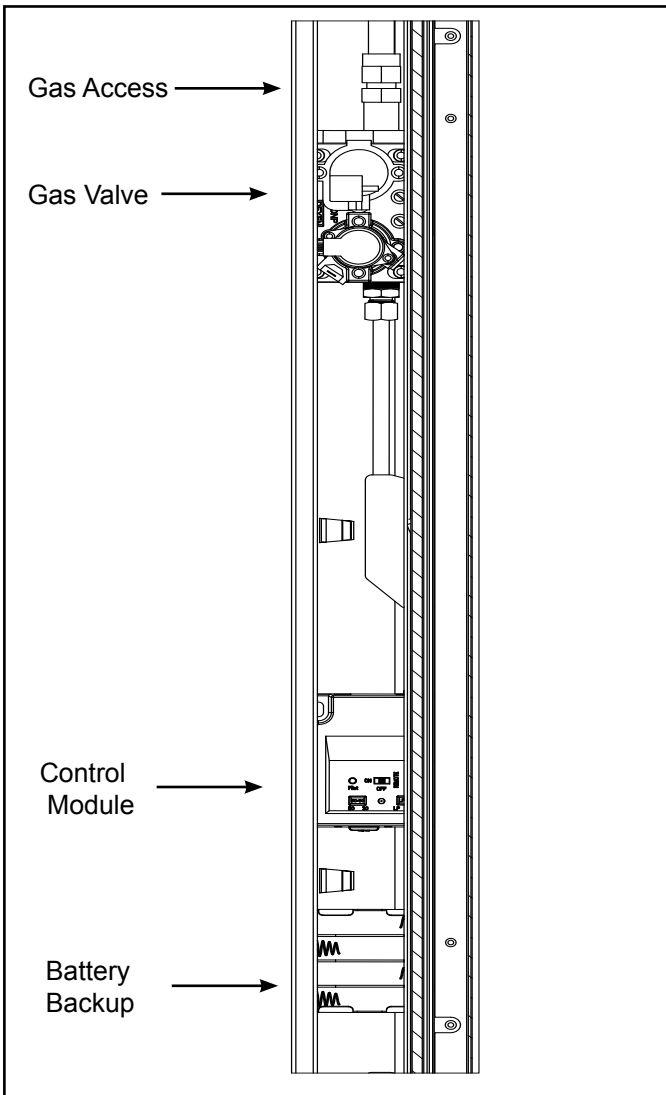

Figure 9.3 Gas Fitting Access with Bottom Glass Shield Removed
- Refer to Figure 9.3 for location of gas line access in appliance.